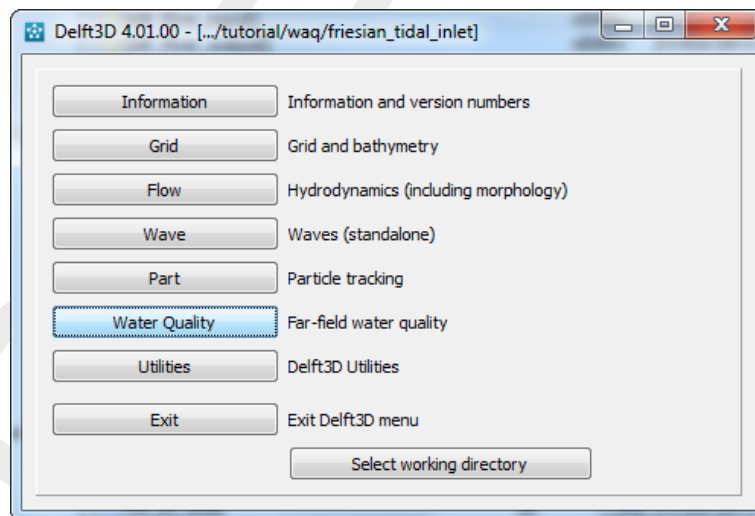
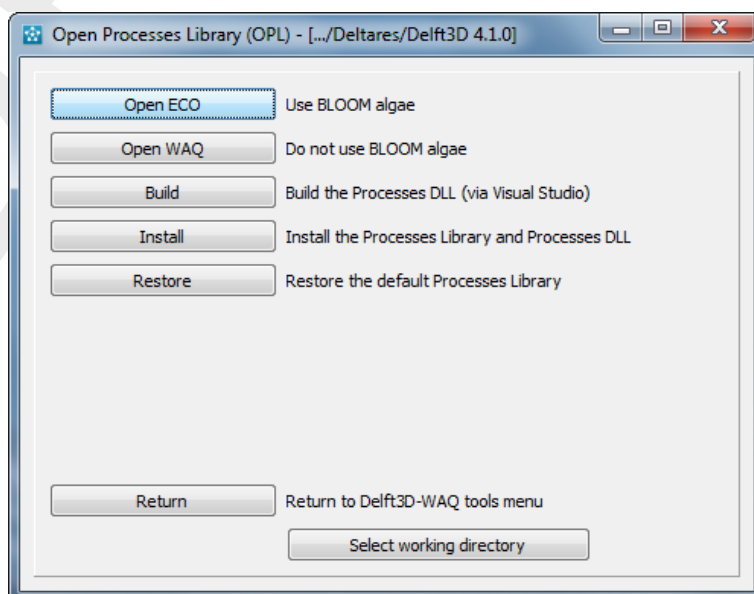
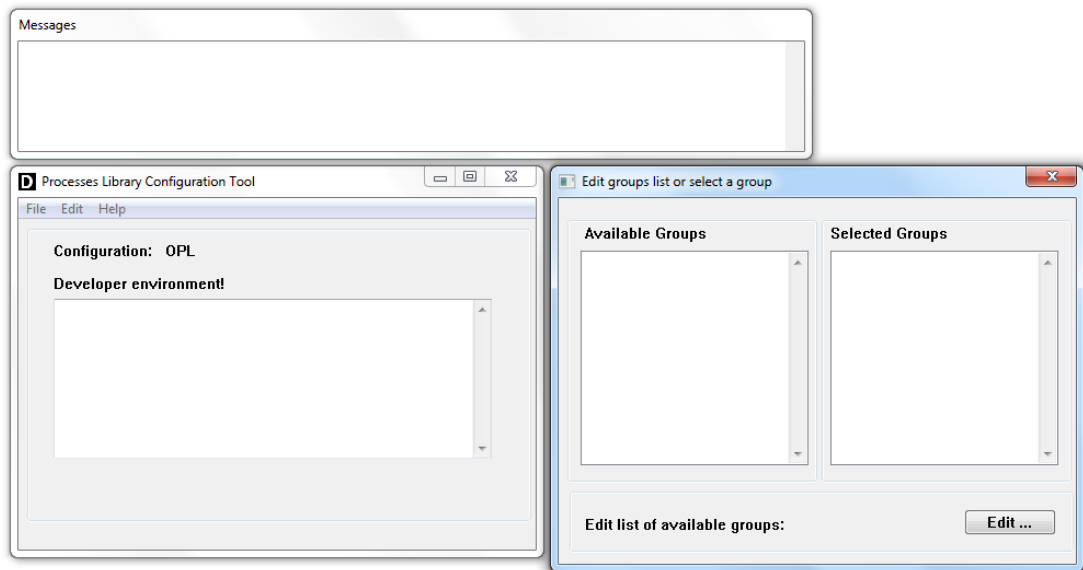

Figure 3.1: Main window of Delft3D-MENU
Figure 3.3: *Open Processes Library (OPL)* window to start the OpenPLCT
Figure 3.4: Open Processes Library Configuration Tool start windows (empty database)
The main window of Delft3D-MENU is shown in Figure 3.1.
To start the OpenPLCT for WAQ (general water quality) press first the button *Water Quality* (Figure 3.1), followed by *General* and *Tools* and *OpenPLCT* (now you get a window similar to Figure 3.3) and *Define Input*. The OpenPLCT will start, showing three different windows, see Figure 3.4.
You will be back in the **Open Processes Library (OPL)** selection window, see Figure 3.3.
- ◇ Click several times *Return* to return to the main window of Delft3D-MENU, see Figure 3.1.